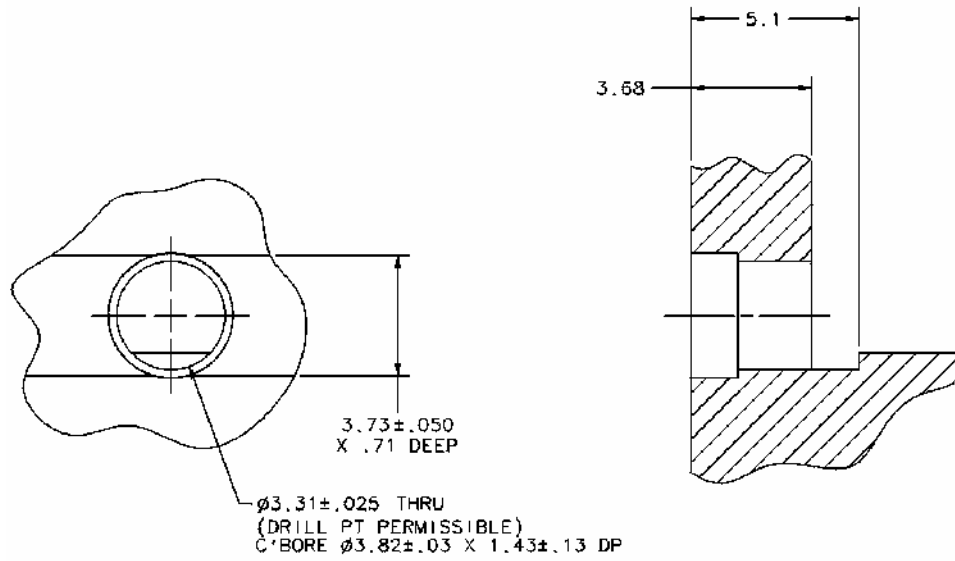

Figure 2. VP100CMS10 Mounting Hole Dimensions and Assembly for a Thick Wall Housing
Machining dimensions for the shroud mounting hole are shown in Figures 2 and 3.
- b. For a thick-wall housing place three to four solder washers on the shroud and place the shroud into the housing as shown in Figure 2.